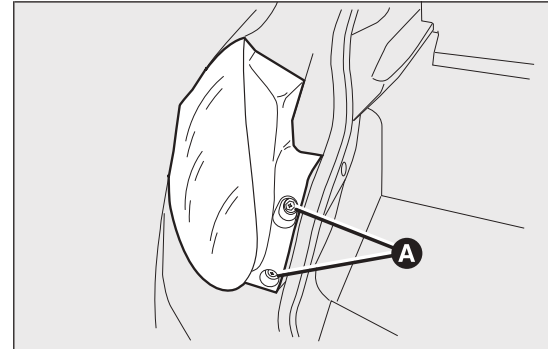

fig. 147
- open the luggage compartment and loosen the two rear light cluster fastening screws A fig. 147;